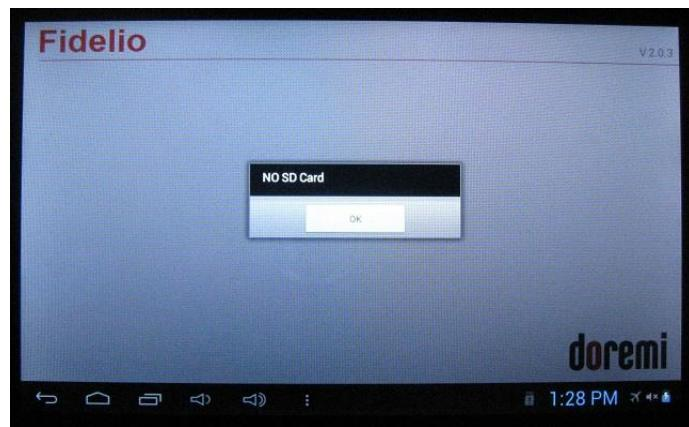

Figure 58: Files Don't Match Window
- A message stating, “NO SD Card,” will appear (Figure 58):